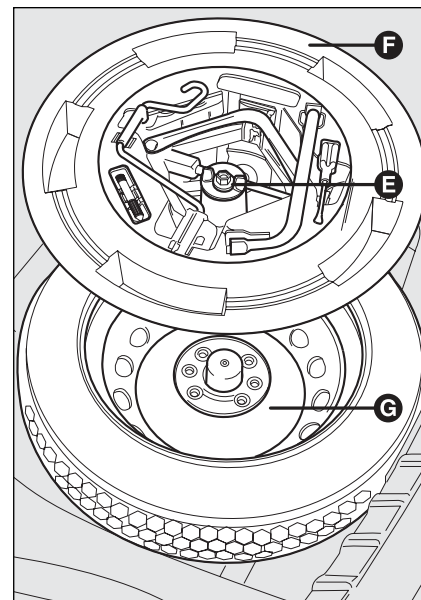

fig. 11
- ☐ Stow the space-saver spare wheel **G**-fig. 11 in the space provided in the boot;